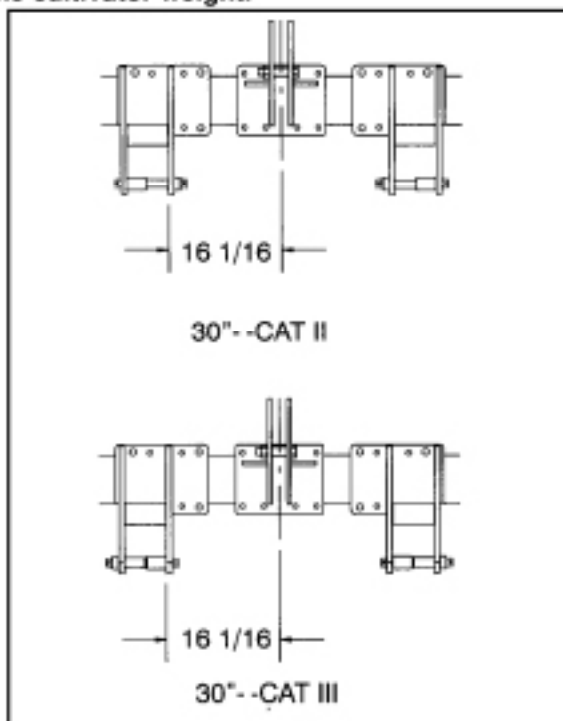
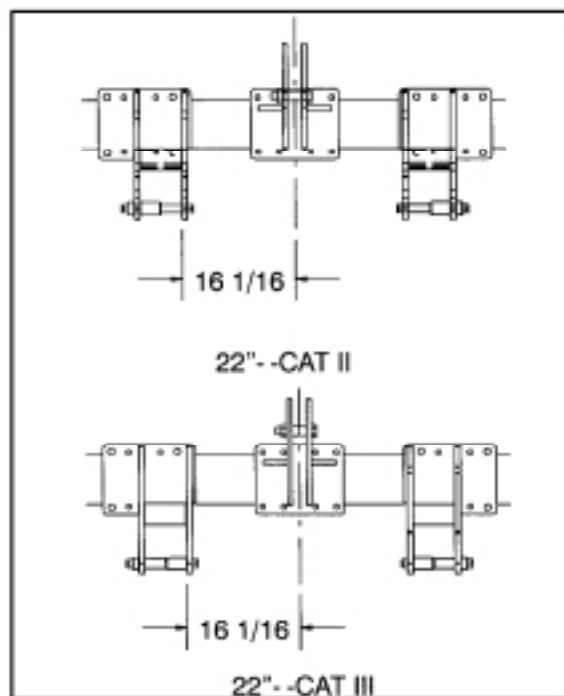
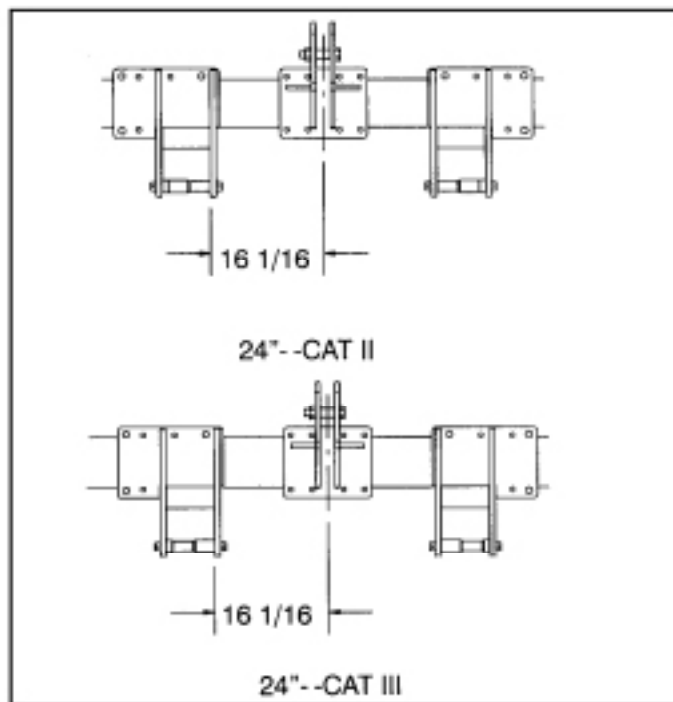

Figure 4 Hitch Position 30" Row & 22"-24" Row
Figure 5 Hitch Position 22" Row
Figure 6 Hitch Position 24" Row
4. See Figure 4, Figure 5, or Figure 6 for the correct bushing location to fit the hitch that will be used. Be sure upper mast is centered on the toolbar.
2. Position lower 3-point brackets and spacers to match tractor hitch (Figure 4, Figure 5, or Figure 6). 24" row units use different lower 3-point brackets.